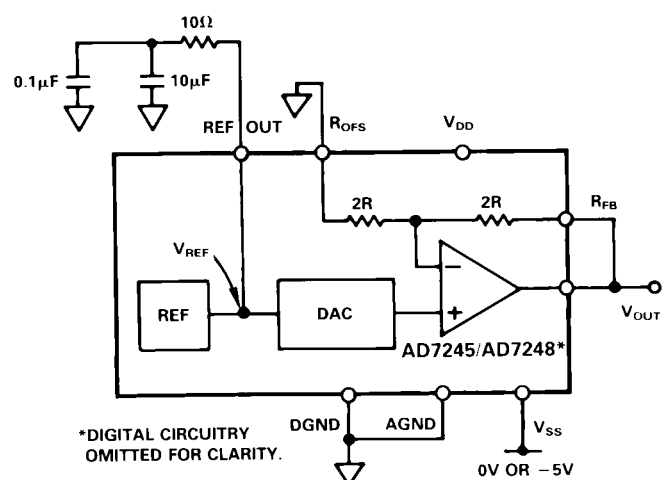

Figure 8. Unipolar (0 to +10V) Configuration
*REFERENCE DECOUPLING COMPONENTS AS PER FIGURE 8
The first of the configurations provides an output voltage range of 0V to +10V. This is achieved by connecting the bipolar offset resistor, R_{OFS} , to AGND and connecting R_{FB} to V_{OUT} . In this configuration the AD7245/AD7248 can be operated single supply ($V_{\text{SS}} = 0V = \text{AGND}$). If dual supply performance is required, a V_{SS} of -5V should be applied. Note that a V_{SS} supply more negative than -5V should not be applied to the AD7245/AD7248 when it is configured for a 0 to +10V output range. Figure 8 shows the connection diagram for unipolar operation while the table for output voltage versus the digital code in the DAC latch is shown in Table III.